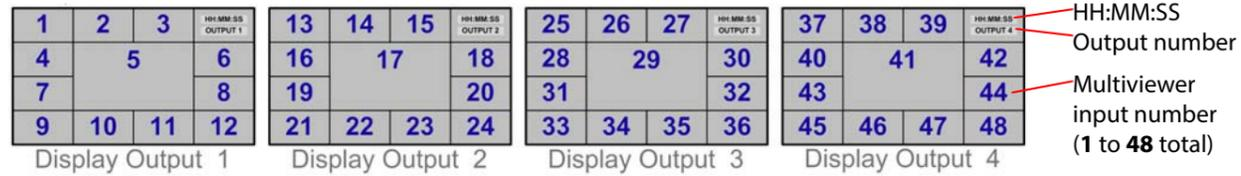

Figure 5 Default Video Wall Layout
9. After booting, each multiviewer head display output shows a default video wall. See **Figure 5** on page 3.